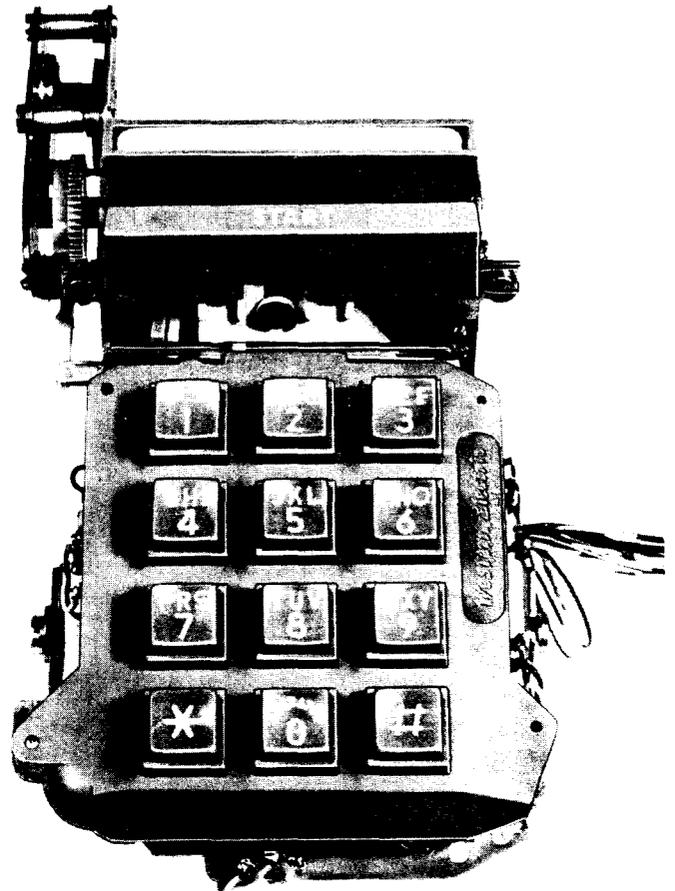

Fig. 1—36E or K Dial
- START BAR (Fig. 1) when depressed, operates the common switch of associated TOUCH-TONE dial and starts dialing mechanism.